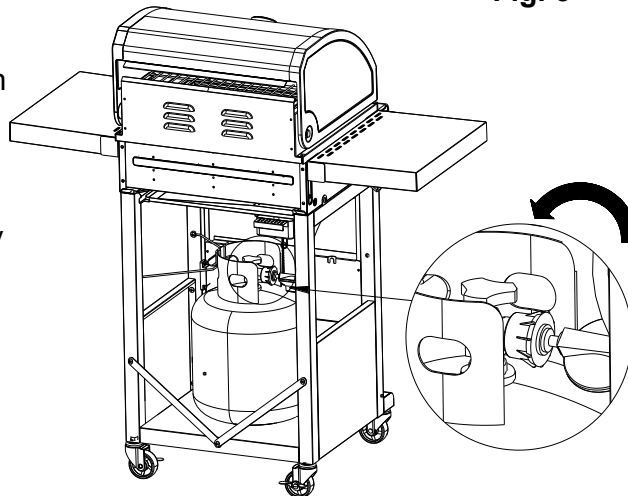

Fig. 5
2. Detach the hose and regulator assembly from the LP gas tank valve by turning the quick coupling nut counterclockwise. See Fig. 5.